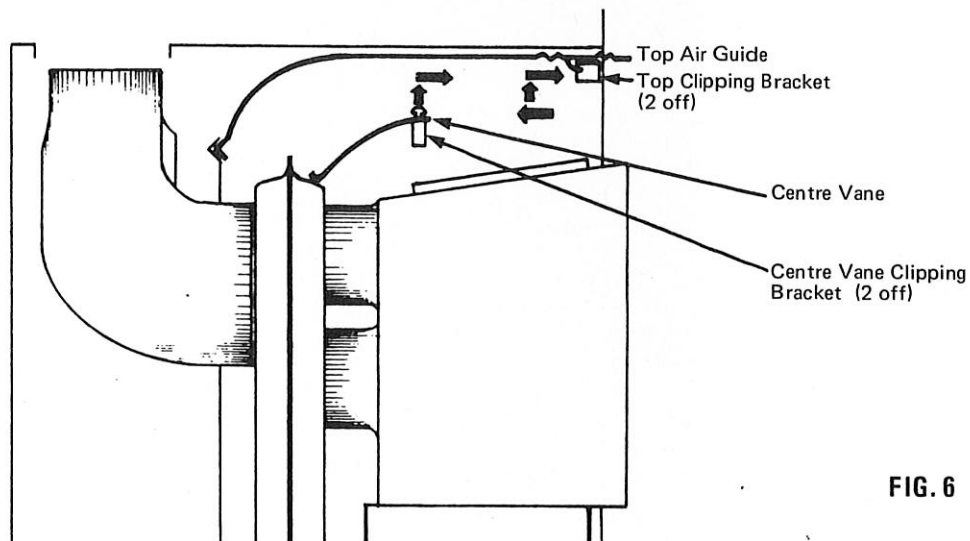

FIG. 6
2. Remove top air guide by pushing back, lifting, then pulling out. [Fig. 6]
3. Remove centre vane by lifting it out of clips and pulling forward. [Fig. 6]